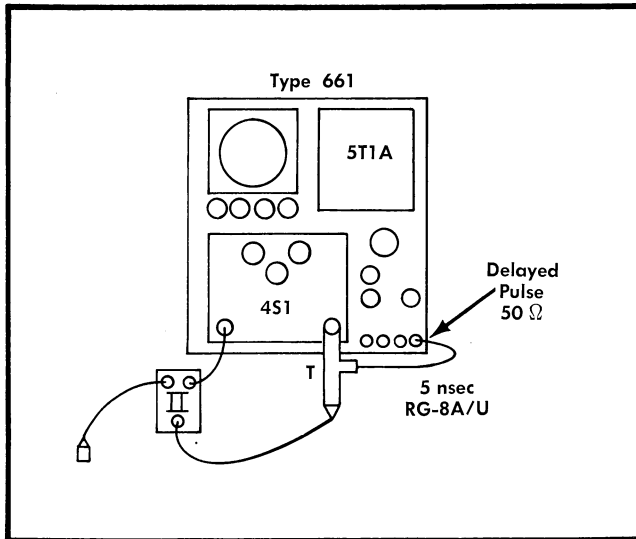

Fig. 4-7. Signal delay check circuit.
- a. Set up the system as shown in Fig. 4-7.